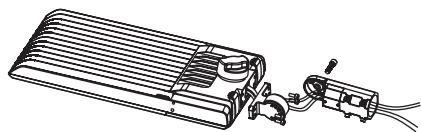

Figure 1
1. Separate the slipfitter assembly into two pieces by removing the M10 × 40mm bolt in the center of the adjustment knuckle. (Figure 1)